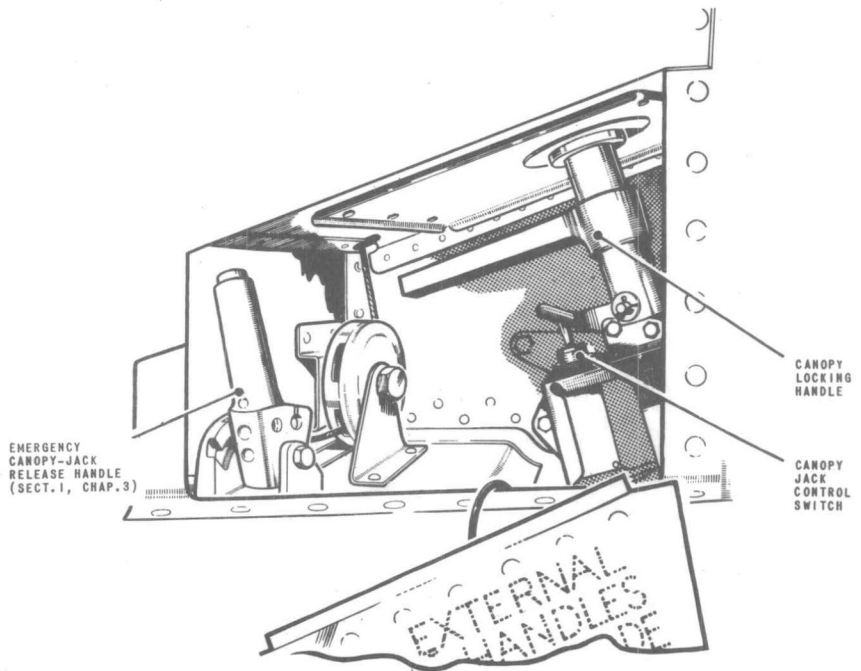

Fig.1. Canopy external controls
1. Entry to the cockpit is by way of the canopy. The external canopy-operating controls (*fig.1*) are located behind a panel labelled CANOPY EXTERNAL RELEASE HANDLES, in the port side of the spine, aft of the cockpit. Opening the canopy is effected by pulling the locking handle and then pushing the nearby spring-loaded tumbler switch. The locking handle controls inflation of the canopy seal and in the unlocked position a CANOPY warning indicator in the cockpit is illuminated whilst operation